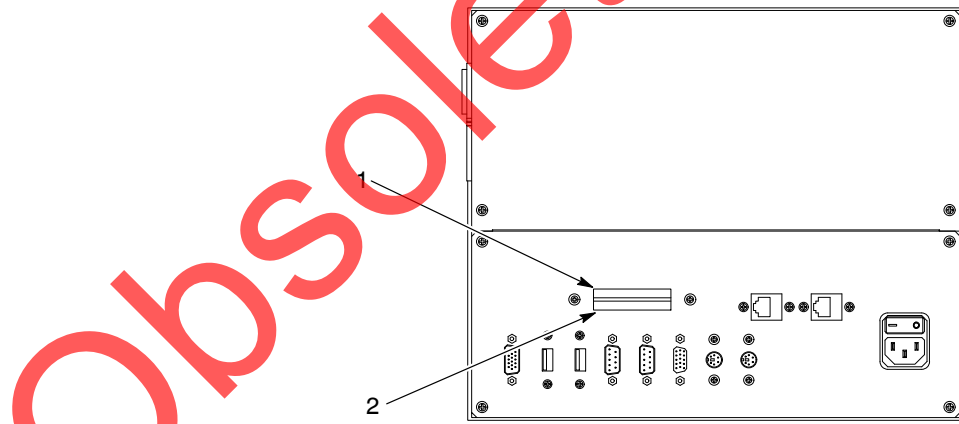

Figure 3-12 User Data and Program Card Locations
See Figure 3-12. The CompactFlash card slots are on the back on the PC. The top card (1) is the data card; the bottom card (2) is the program card.